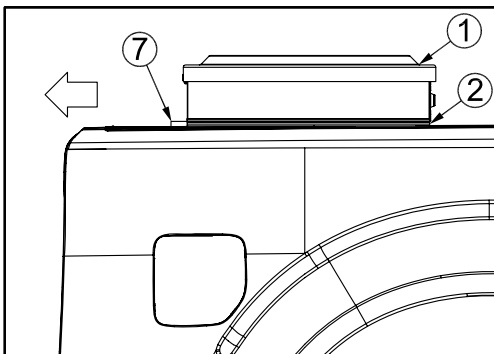

Fig. 15
18. Slide toolbox (#1) and rubber pads (#2) toward the cab of the truck until the rubber spacer (#7) contacts the header board of the truck bed. Ensure the rubber pads (#2) are positioned squarely under the toolbox. (See Fig. 15)